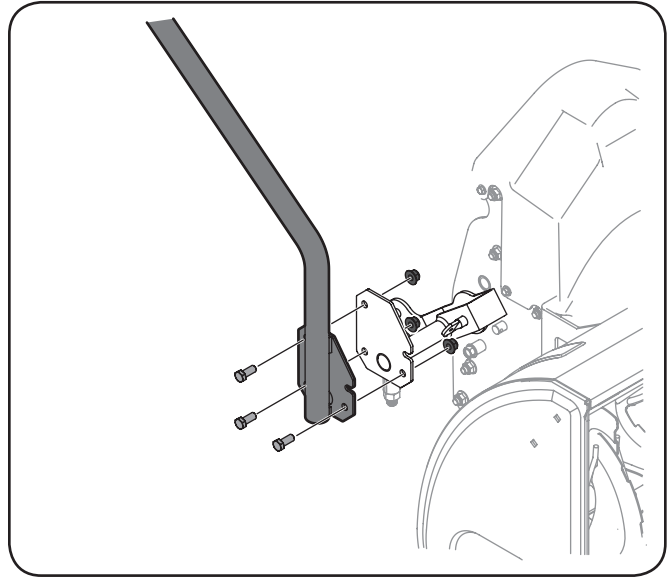

Figure 3-20
- Using two $\frac{7}{16}$ " wrenches, secure the lift handle to the auger housing assembly with three hex screws and flange lock nuts. See Figure 3-20.